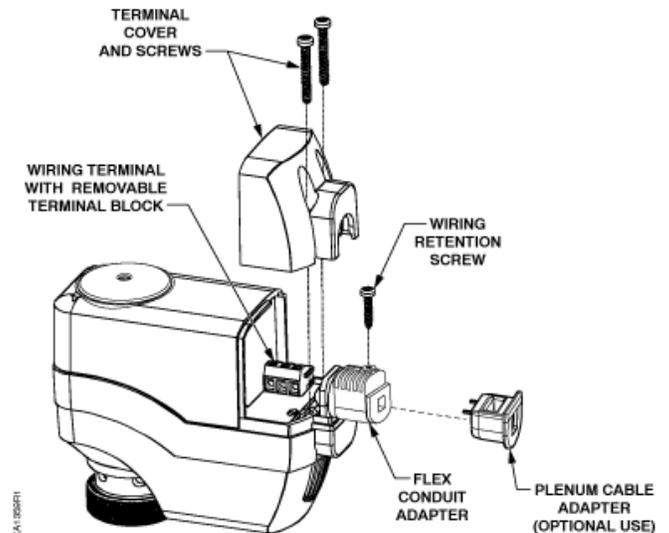

Figure 17. SSD61.5U/SSD81.5U Actuator Components.
9. Secure the terminal cover in place over the wiring terminals (Figure 17) using a Phillips head screwdriver,
1. Remove the terminal cover (Figure 17) using a Phillips head screwdriver.